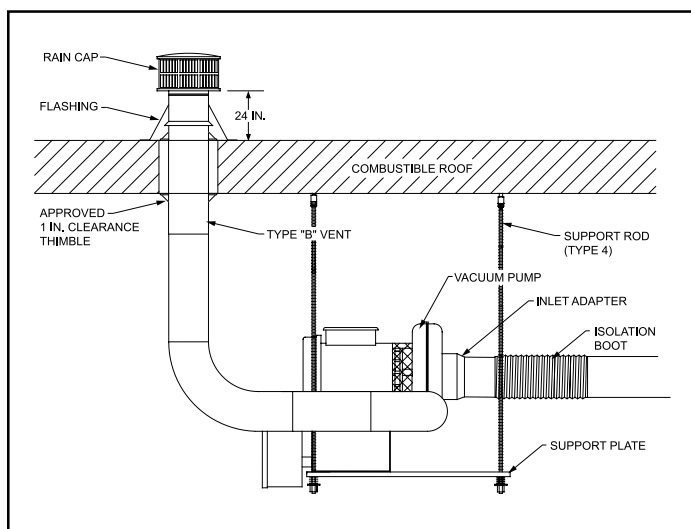

Figure 3-18
- It is recommended that single-wall vent material be used. The portion of the vent which goes through combustible material in the building wall or roof must pass through a dual insulated vent sleeve with an approved 1 inch clearance thimble (see Figure 3-18 and 3-19).
- Vertical vents which exit through the roof should be at least 24 in. higher than any portion of the building within a horizontal radius of 10 ft. of where it passes through the roof of the building (see Figure 3-18). A standard rain/vent cap may be used to shield the vent.